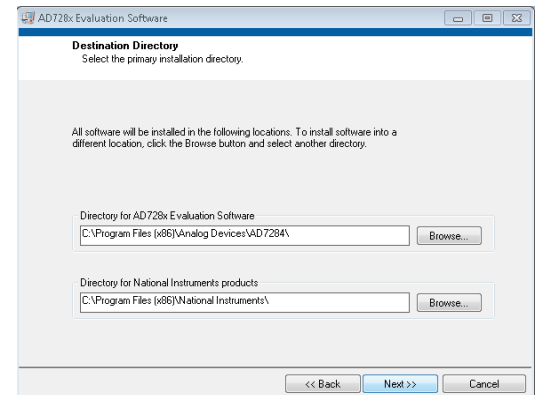

Figure 8. Default Destination Directory
5. The default location of the installation is shown in Figure 8. It is recommended not to change from this location. Click **Next.**